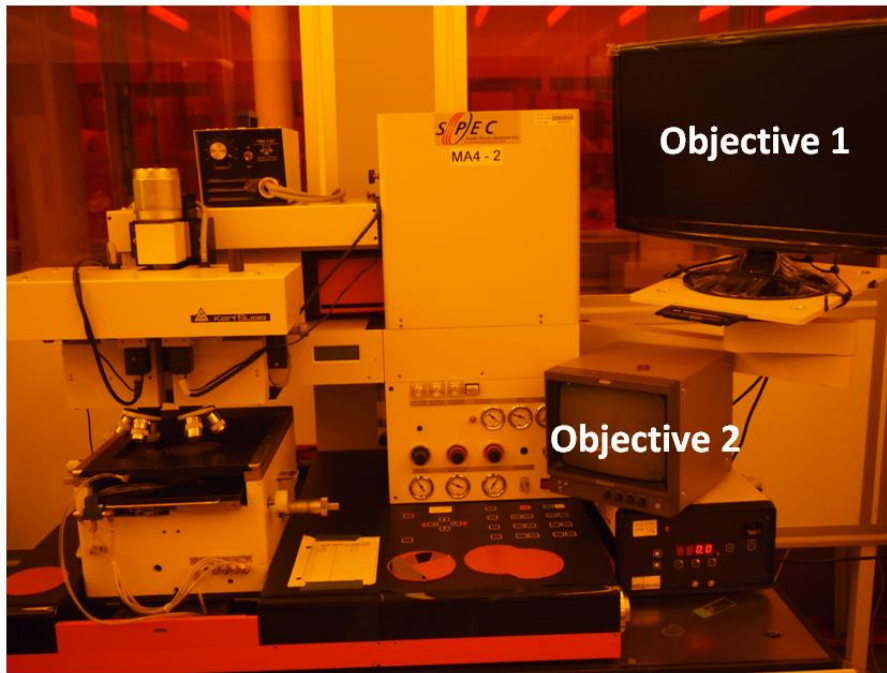

Figure 16 MA4-2 two separate monitors for splitfield alignment.
- i) The MA4-2 has the option of two objectives. This can substantially expedite the alignment process by allowing the user to view both alignment marks simultaneously (**Figure 16**).